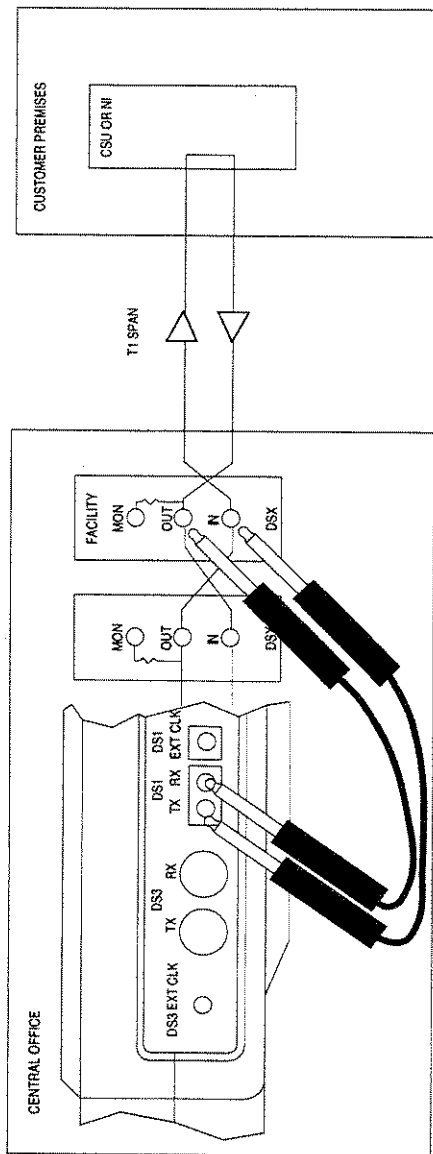

Figure 1.1.A Accepting a New T1 span
Here is a procedure for accepting a new T1 span. Refer to Figure 1.1.A.
- 5) Connect the test set to the circuit as shown in Figure 1.1.A. Press the HISTORY key to acknowledge the blinking history lights and turn them off.
Here is a procedure for looping back a CSU and NI on a T1 line. The setup is illustrated in Figure 1.1.A.